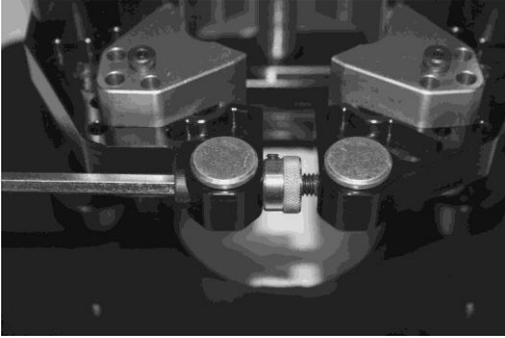

Figure 5
5. With the Mast-R-Lift II Crank Handle loosen the tensioning cap screw sufficiently to force the carriage to spread (Figure 5). This allows the router to be installed easily.
1. Place the insert ring into the center hole of the Lift's top plate (Fig. 5).